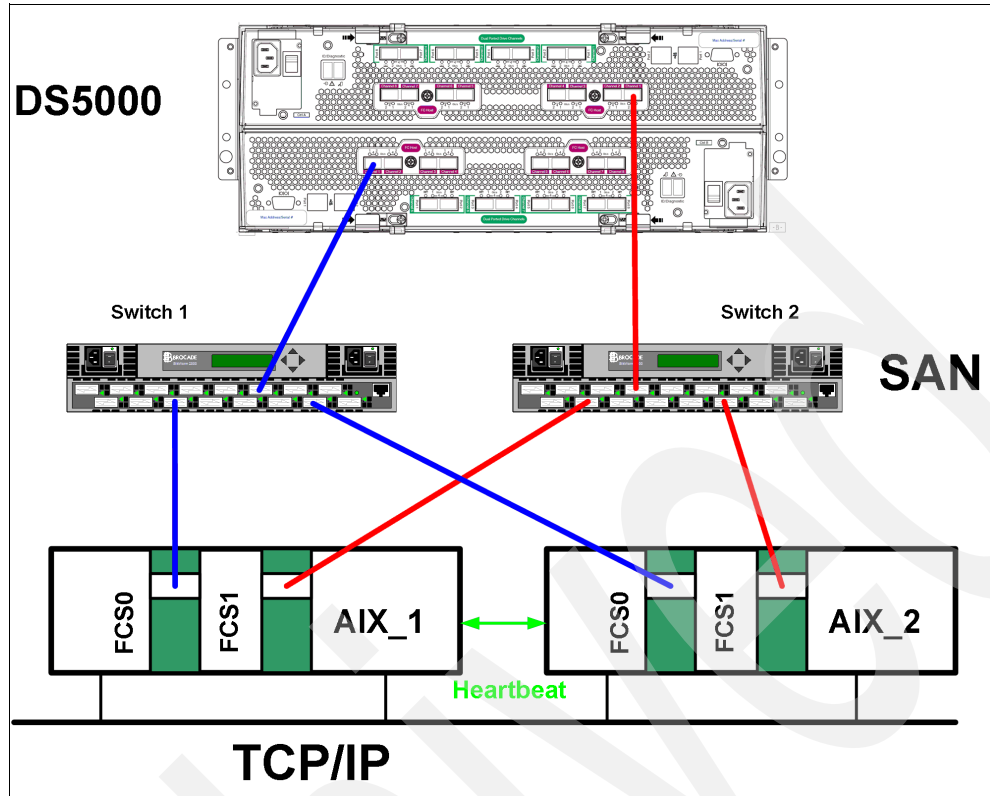

Figure 12-26 PowerHA cluster and DS5000
The primary goal of a PowerHA environment is to eliminate single points of failure. Figure 12-26 contains a diagram of a two-node PowerHA cluster (this is not a limitation; you can have more nodes) attached to a DS5000 Storage Server through a fully redundant SAN fabric. This type of configuration eliminates a Fibre Channel (FC) adapter, switch, or cable from being a single point of failure (PowerHA itself protects against a node failure).